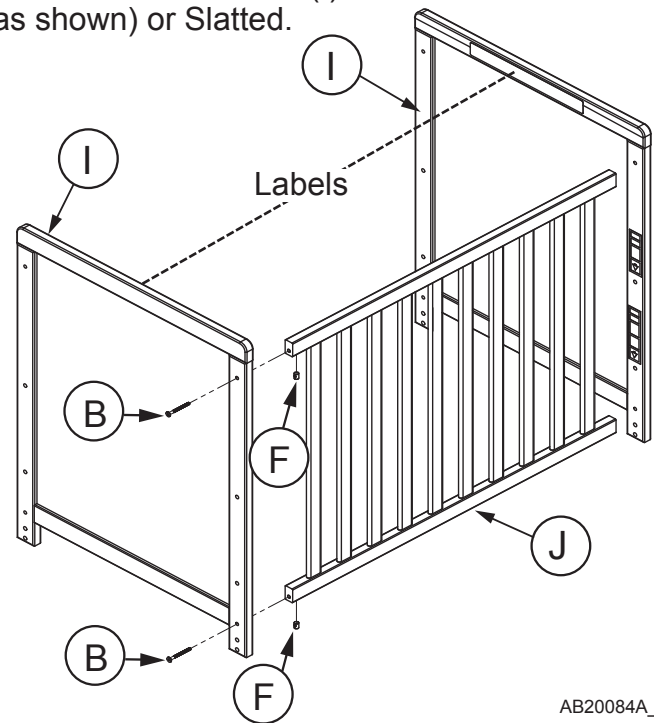

Figure 1
See Figure 1.
Attach the remaining Stationary Side (K) to the opposite side of End Panels (I) using the same process described in Step 1. Refer to Figure 1 diagram.